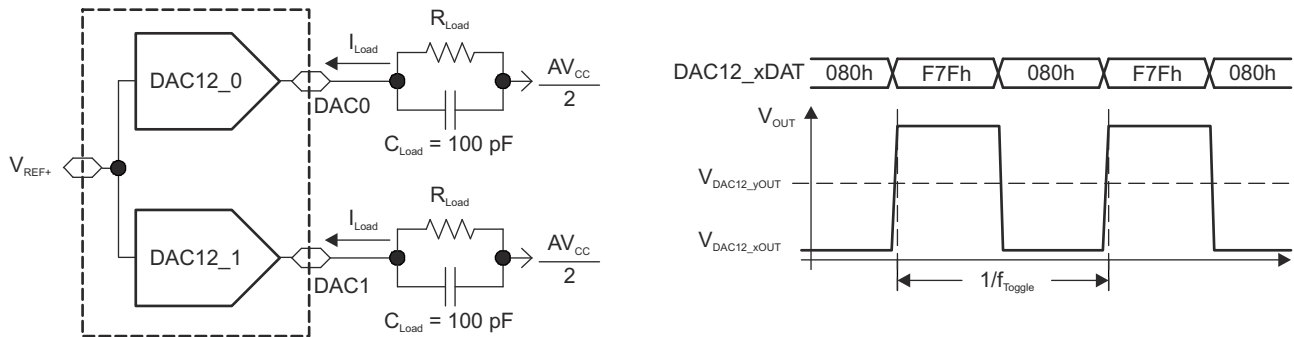

图 8-22. Crosstalk Test Conditions
| Channel-to-channelcrosstalk (1) (see 图 8-22)                                              | DAC12_0DAT = 800h, No load,DAC12_1DAT = 80h ↔ F7Fh, $R_{Load} = 3\text{ k}\Omega$ ,$f_{DAC12\_1OUT} = 10\text{ kHz}$ at 50/50 duty cycle | 2.2 V, 3 V |     | - 80 |     | dB   |